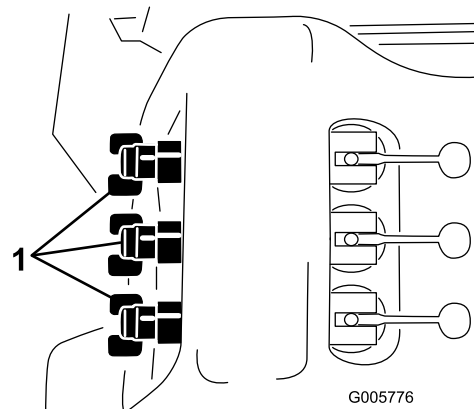

Figure 28
12. Adjust the boom bypass valve (Figure 28) under the boom control valve for the boom you turned off until the pressure reading on the gauge is the same as it was in step 9.